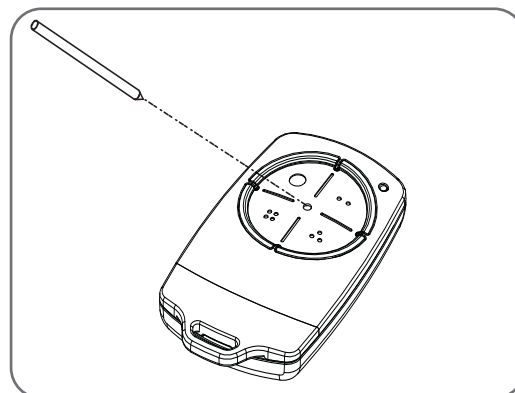

Fig.6.6.2
- Using a small pen, press and hold firmly for two seconds the middle button, through the Coding Hole (**Fig 6.6.2**).
- Within ten (10) seconds take the additional remote control you wish to code. Hold the new remote controls button for two seconds, pause for two seconds, hold again for two seconds and then release.
- Wait for ten (10) seconds and then press the new remote controls button to test.